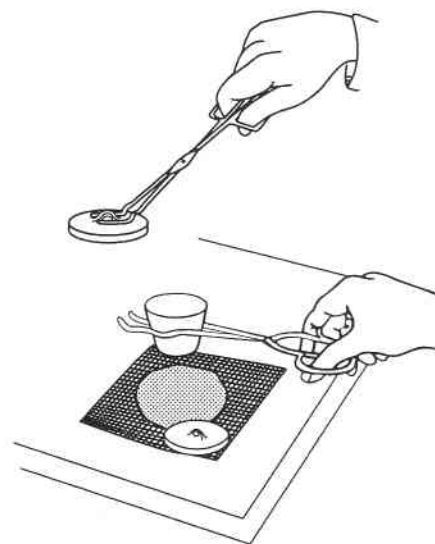

Figure 4.
- Using tongs, remove the crucible cover and place it on a wire gauze on the bench top. With the tongs, remove the crucible from the clay triangle and place it on the wire gauze as well. (See Figure 4.)